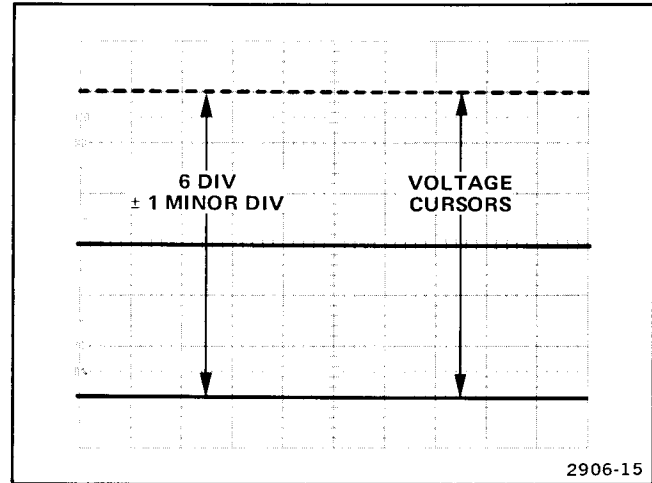

Figure 15. VOLTS cursor accuracy.
6. CHECK—display for 6 divisions ± 0.2 division (5.8 to 6.2 div) between voltage cursors (see Figure 15).